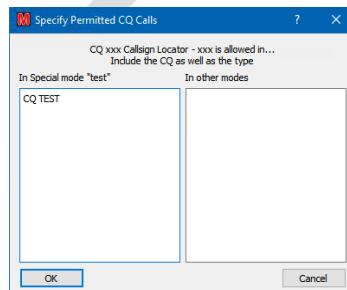

Figure 64 – Configure CQ auto responses
- **“Config CQ”**: Initiates the ‘Configure CQ’ dialogue (Figure 64) to define which CQ calls will result in an auto-response in both (Con)test and non-(Con)test modes so that in a contest there is no automatic response to non-contest calls and vice versa.